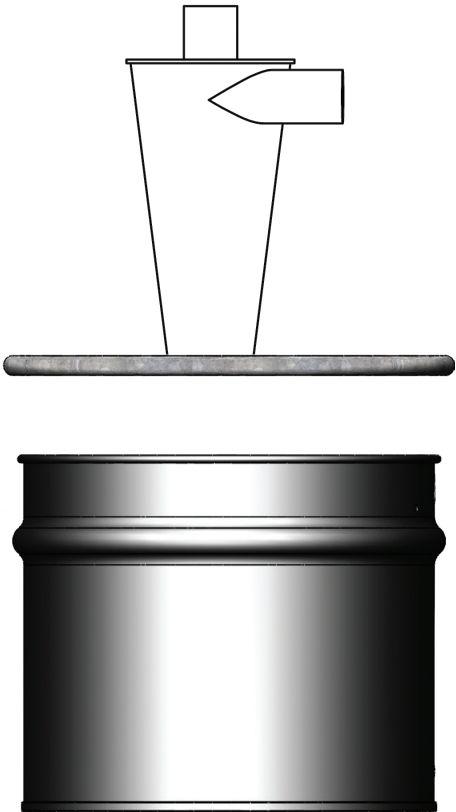

FIG. 4
- 4** Put Cyclone (A) and lid assembly on top of your dust container and seal it airtight. [FIG. 4].